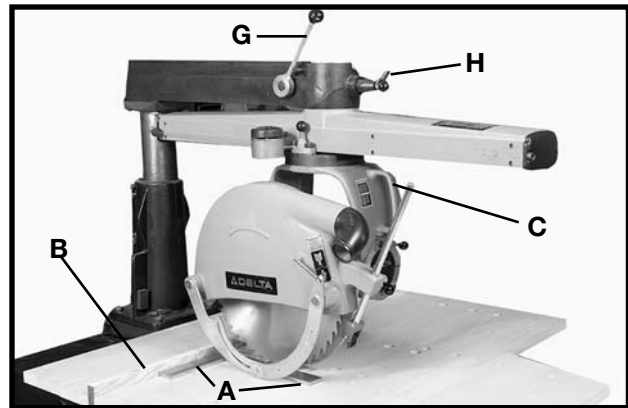
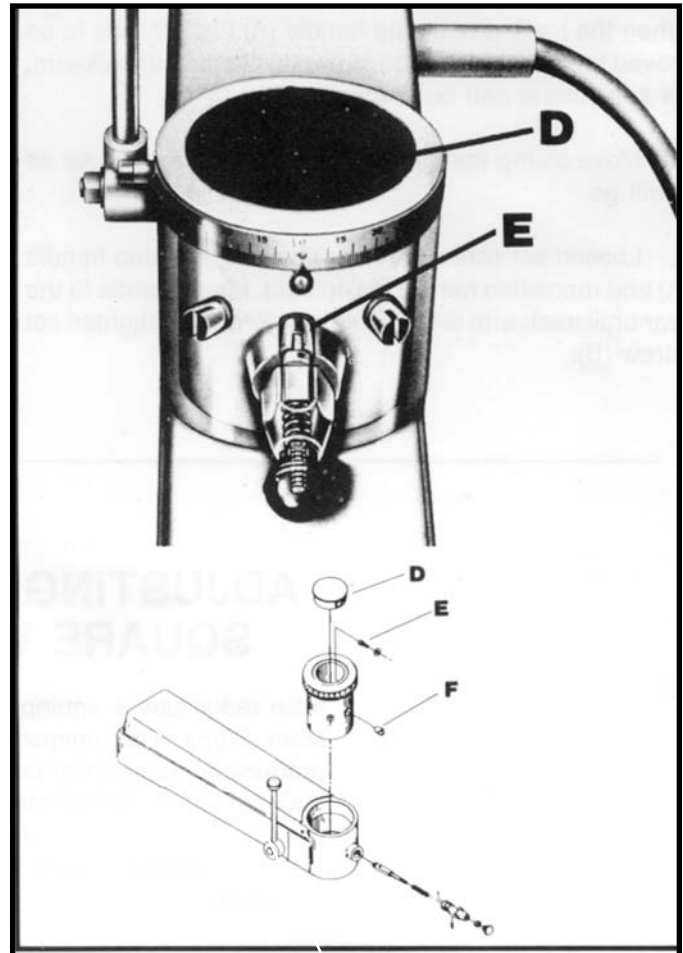

Fig. 40
Fig. 41
2. Place a square (A) Fig. 40, against fence (B), as shown, and lower cuttinghead (C) so that saw blade just clears table top.
3. Pull cuttinghead (C) Fig. 40, along square (A). If saw blade does not travel parallel to the square, the following adjustment is necessary.
4. Remove cover plate (D) Fig. 41.
5. Locate center cap screw (E) Fig. 41, inside pivot column and loosen slightly. Tap center cap screw (E) sharply with a block of wood or insert a thin wooden wedge inside the column to loosen the tapered plug (F) Fig. 41, that is attached to the cap screw (E). It is very important that the tapered plug (F) is loosened before any further adjustment is made.
6. Loosen clamp handle (G) Fig. 40.
7. Using wrench on hex nut (H) Fig. 40, turn slightly to one side. **CAUTION:** Do not attempt to rotate completely. Notice that the entire track also moves.
8. When saw blade tracks evenly against steel square, tighten clamp handle (G) Fig. 40, and center cap screw (E) Fig. 41.
10. Replace cover plate (D) Fig. 41.